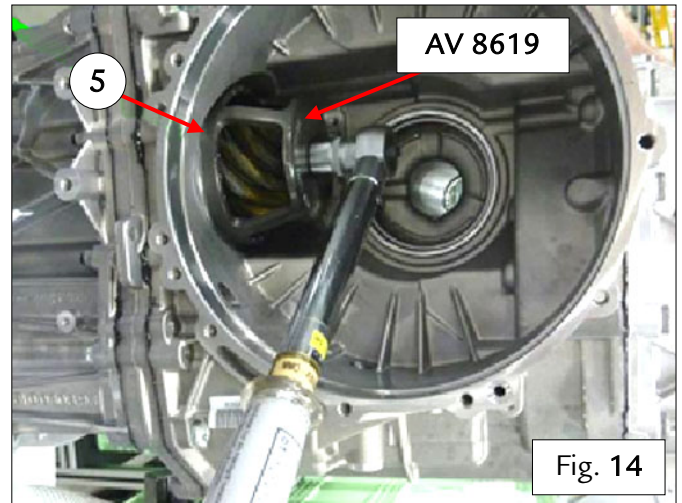

Fig. 14
- Place a container for collecting the fluid under the ATF clutch fluid drain plug orifice – Fig. 14.
- Undo the ATF clutch fluid drain plug indicated – Fig. 14.
- Using the tool 95978619 (AV 8619), undo the ring nut (5) fastening the plate to the differential housing – Fig. 14.